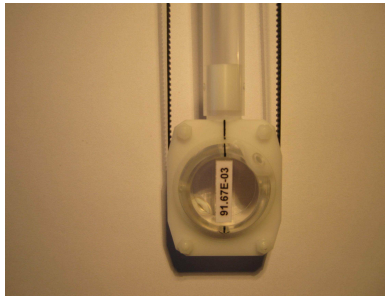

Figure 6: Position of the calibration standard for calibration routine
2. Mount calibration standard into the 3D-Rotator (see Fig. 6)